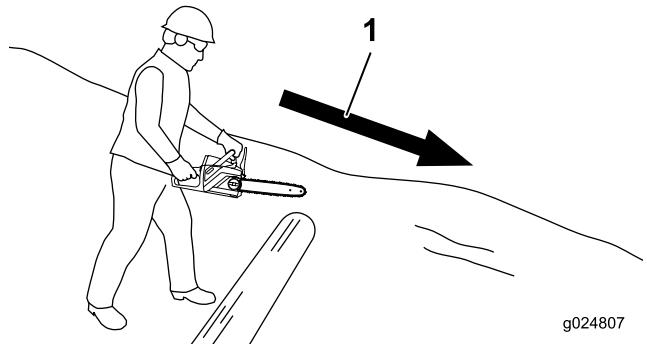

Figure 22
- If the log is on a hill, always stand on the uphill side of the log (Figure 22).